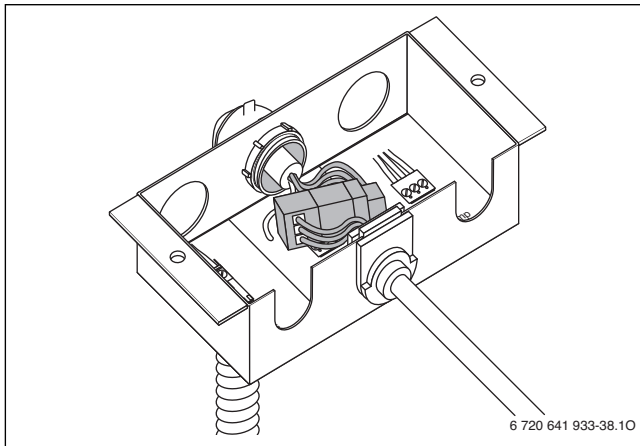

Fig. 54 Cable connected (external DHW tank loading pump or 3-way valve)
- ▶ Insert cable into the junction box as shown in Fig. 54.